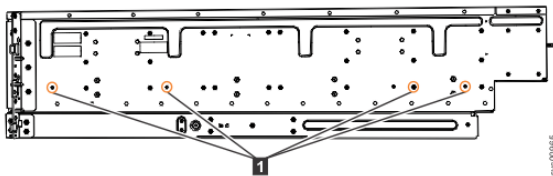

Figure 28. Screw locations to attach the inner rail to the enclosure
4. Use four M4 screws to attach the inner rail to the side of the enclosure. Figure 28 on page 43 shows the screw locations.